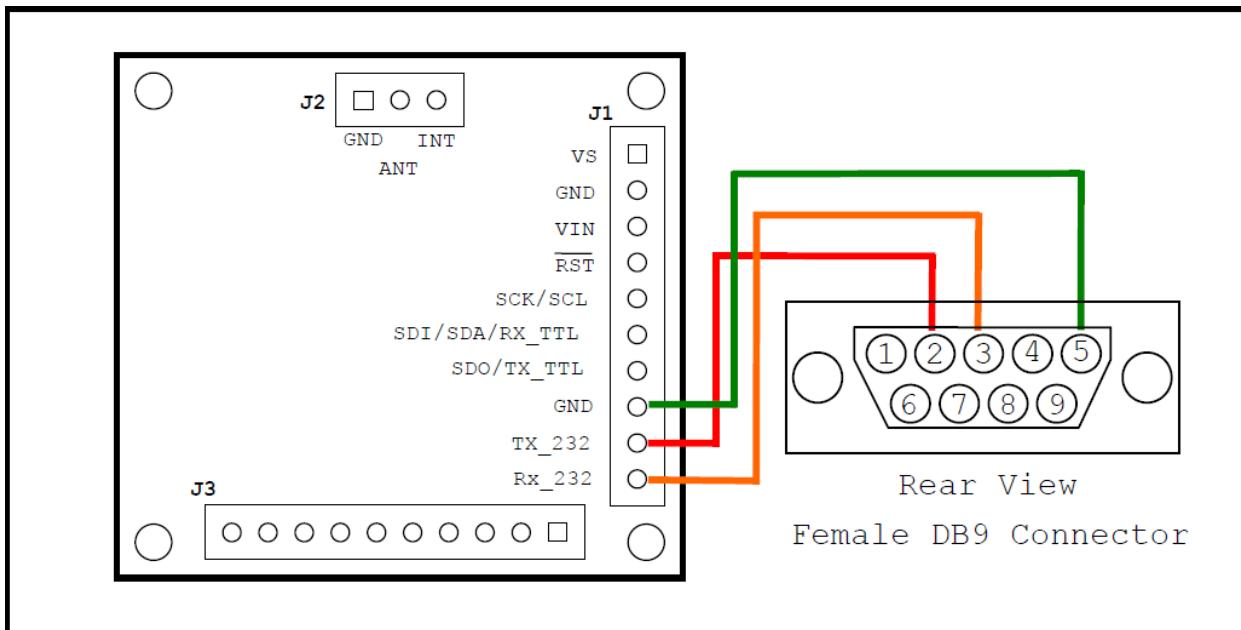

Figure 9-2: RS-232 Connection Diagram
- Use a standard serial cable to connect from the DB9 connector to an available serial port on a PC, as shown in Figure 9-2. A null-modem cable will not work.